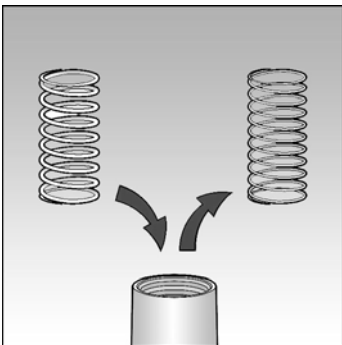

Fig. 9
4. Remove spring and replace with new one. See Fig. 9.